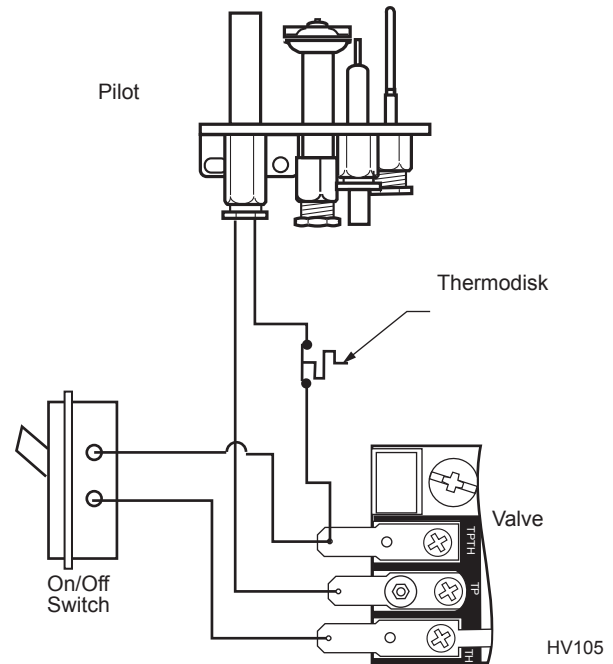

Fig. 9 Remote switch wiring for R Models.
3. Connect wiring to gas valve. Refer to Figure 9 or 10.